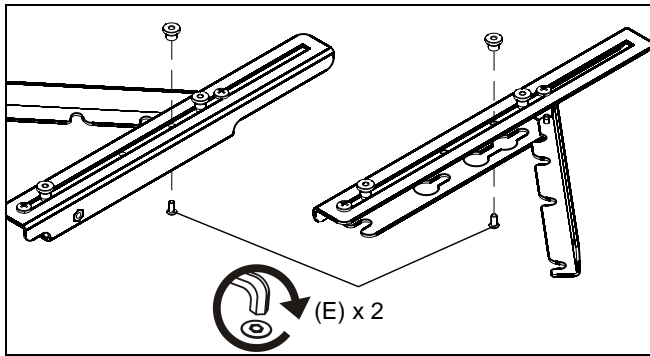

Figure 1
1. Attach one thumbnut (F) with one 8-32 x 3/8" button head security cap screw to both LSB brackets (A and B). (See Figure 1)
1. Line up keyhole slots of both LSB-101 brackets (A and B) with SLM bracket. (See Figure 1)